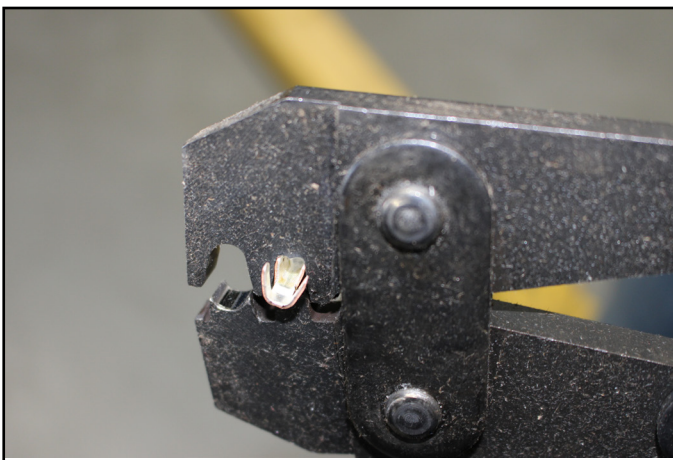
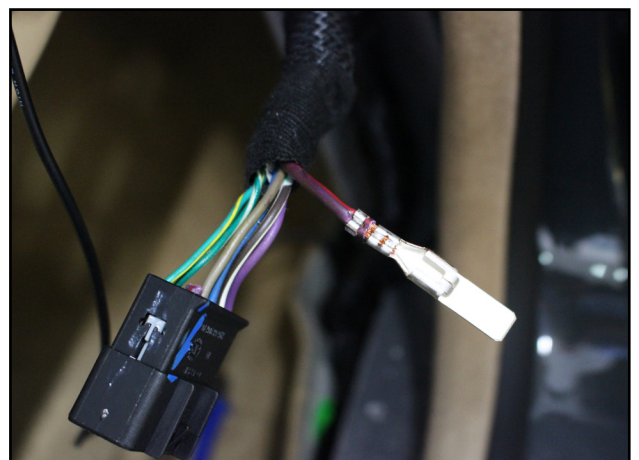

fig. 6b
fig. 6c
4. Using the supplied crimp tool (as shown fig. 6b), crimp the (#1) silver male terminal to the wire from the previous step, this is circuit SC999 (fig.6c).